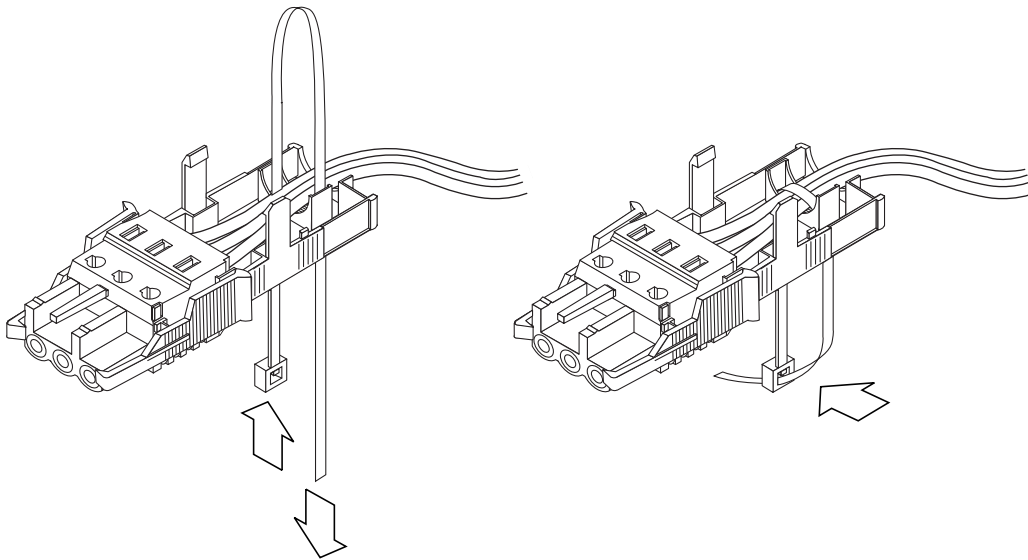

FIGURE 15 Securing the Wires to the Strain Relief Housing
- 4. Loop the tie wrap over the wires and back out of the strain relief housing and tighten the tie wrap to secure the wires to the strain relief housing (FIGURE 15).**